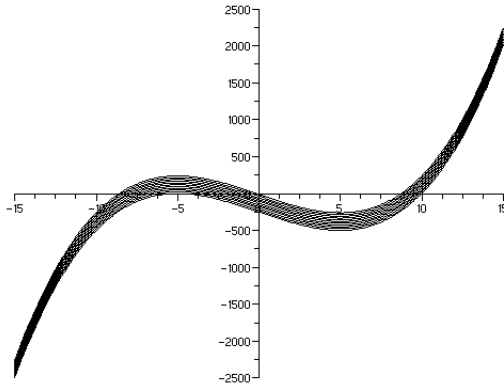
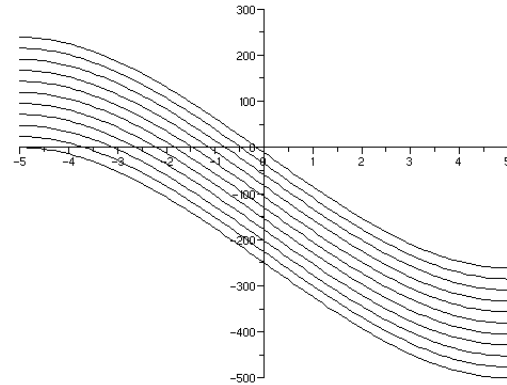

Fig 1
Fig 2
In Fig 1, 3 solutions are observed for each value v between $[0,500]$ ml, all of them real, since the equation (7) starts at $a = -5$ and has a maximum of 0 -half of the bag- we recognize which of the 3 solutions in each curve is useful to control the pressure of the robotic claw. Fig 2 is a zoom to these solutions.